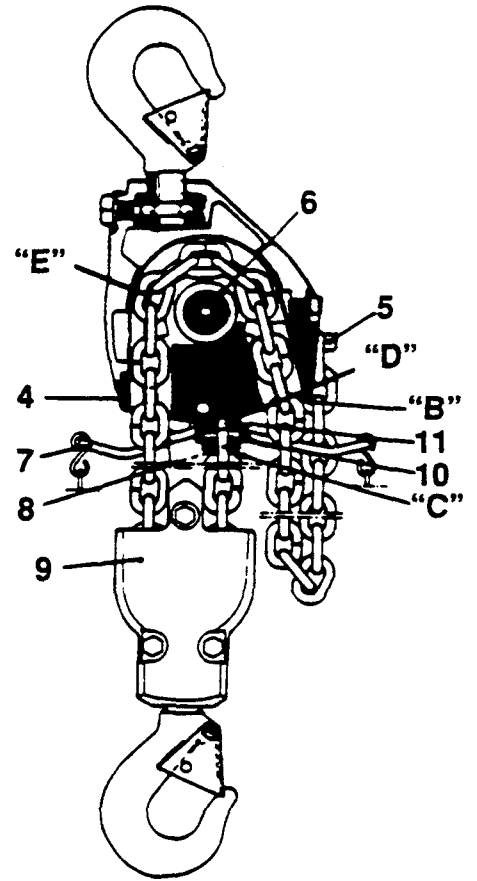

FIGURE 2
- g. Secure the end link with the screw (5), without twisting the chain.
2. ACL 1 Ton Hoist (Reference Figure 2)
- c. With the aid of the steel wire pull the end link up into the chain guide, the end link must be turned as shown by D in figure 2. The standing link of the chain must have the chain weld away from the center of the chain wheels (6) as shown by E in figure 2.
- f. Attach the same end link to the steel wire which has been passed through the hook casing (9). Pull the chain through the hook casing. NOTE: Do not twist chain. The end link must be turned as shown by D in Figure 2. The standing links of the chain must have the chain weld away from the center wheel as shown by E in figure 2.
- g. Secure the same end link of chain, without twisting, in the recess C of the chain guide (4) by means of the pin (10). Lock the pins with pins (11).
- h. Secure the opposite end link of chain with screw (5) without twisting the chain.